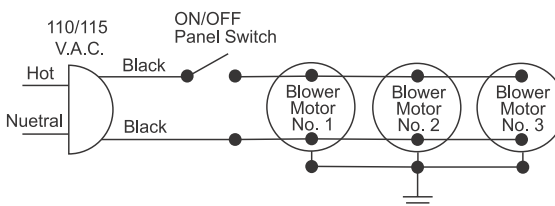

Figure 18 - BK3 Wiring Diagram
- Peel off backing paper and stick supplied wiring diagram decal on firebox bottom approximately 12" in from of blower (see Figure 18).